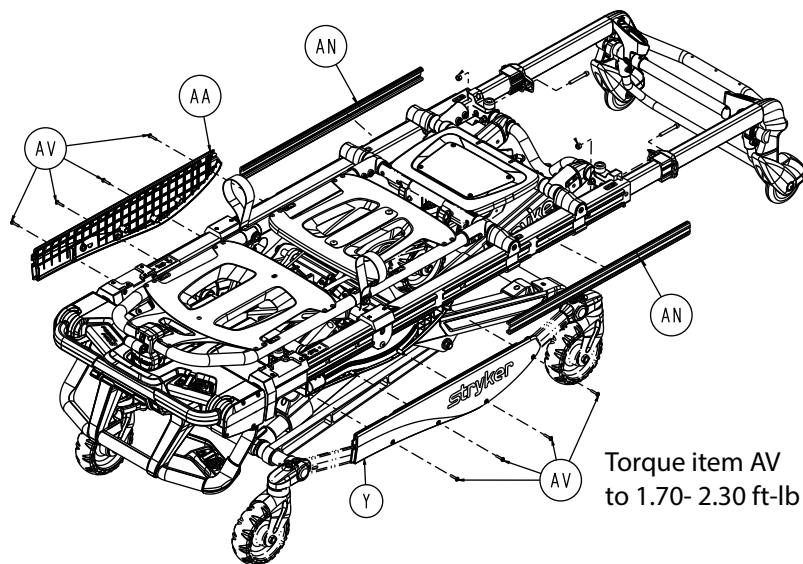

Figure 116 – Remove the slider block cover
7. Using a T20 Torx driver, remove the four round washer head tapping screws (AV) from the patient left slider block cover (Y) (Figure 116). Save the screws and cover.